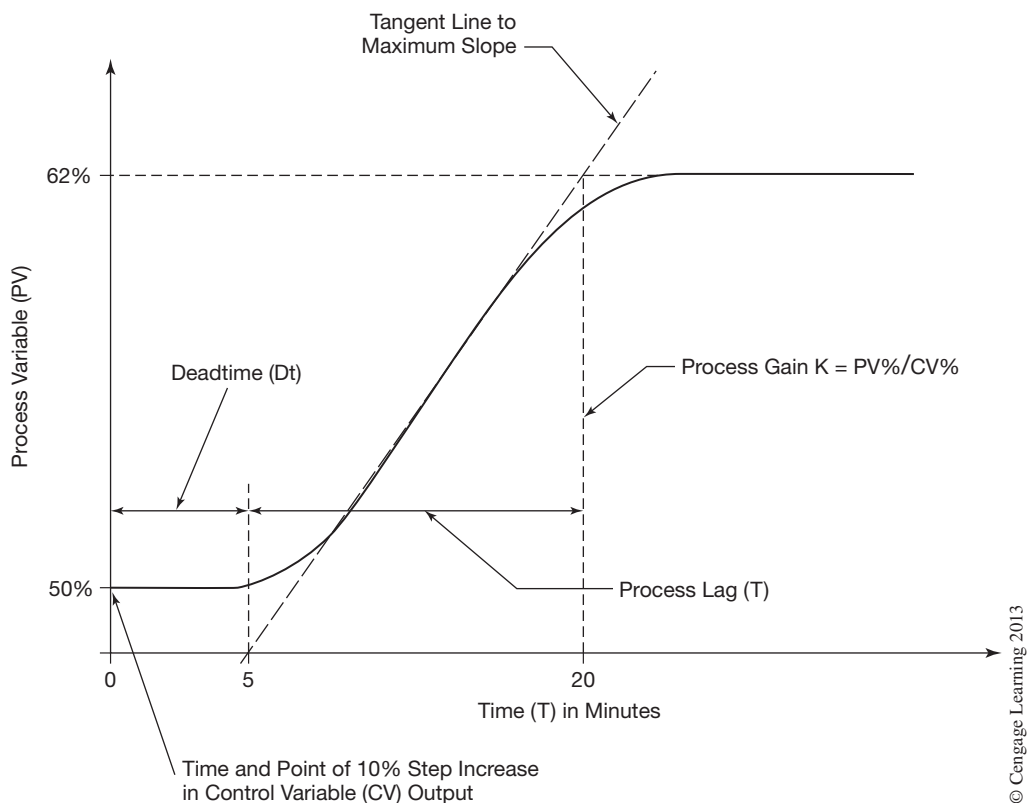

Figure 17-31 Process Reaction Curve
after a step change has been made to the controller output. An example reaction curve is shown in Figure 17-31.
In Figure 17-31, the sloped line drawn tangent to the curve at its point of maximum slope is the process reaction rate and denotes how fast the process reacted to the step change made in the controller output. The inverse of this line's slope is a measure of the severity of the process lag as measured in time (T). The process deadtime (D_t) can be determined by measuring the time from when the step change was made to the intersection of the tangent line with the baseline. The process gain (K) is a measure of how much the process variable increased relative to the size of the step change.